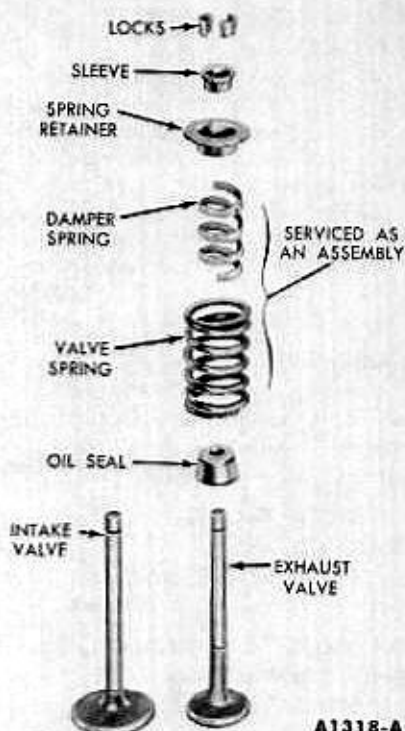

FIG. 20—Valve Assembly
2. Install each valve (Fig. 20) in the port from which it was removed or to which it was fitted. Install a new stem seal on the valve.